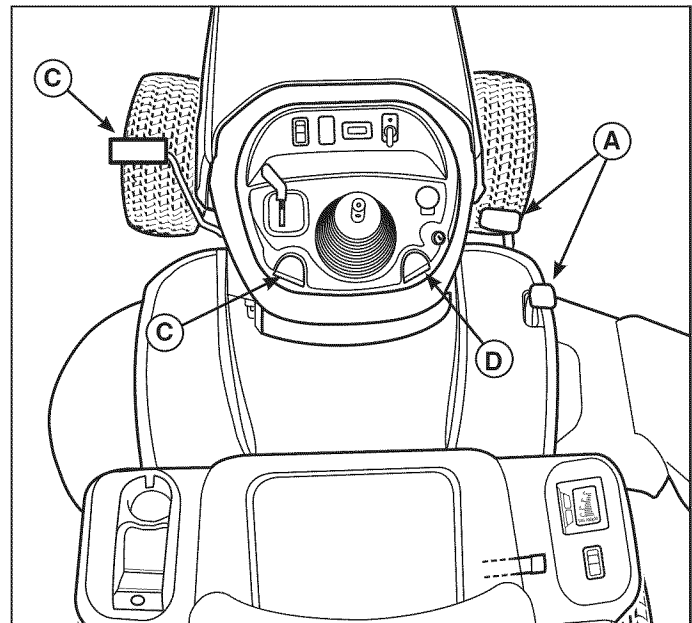

Figure 4
Applying the Parking Brake - See Figure 4. To lock the parking brake, release the ground speed pedals (A), fully depress the brake pedal (B), pull UP on the parking brake knob (C), and then release brake pedal.
Releasing the Parking Brake - See Figure 4. To release the parking brake, fully depress the brake pedal (B) and push the parking brake knob (C) DOWN.
1. Pull up on the cruise control knob (D, Figure 4).
2. Depress the forward ground speed pedal (A).
3. Lift up the cruise control knob (D) when desired speed is reached. The Cruise will lock in one of its five locking positions.